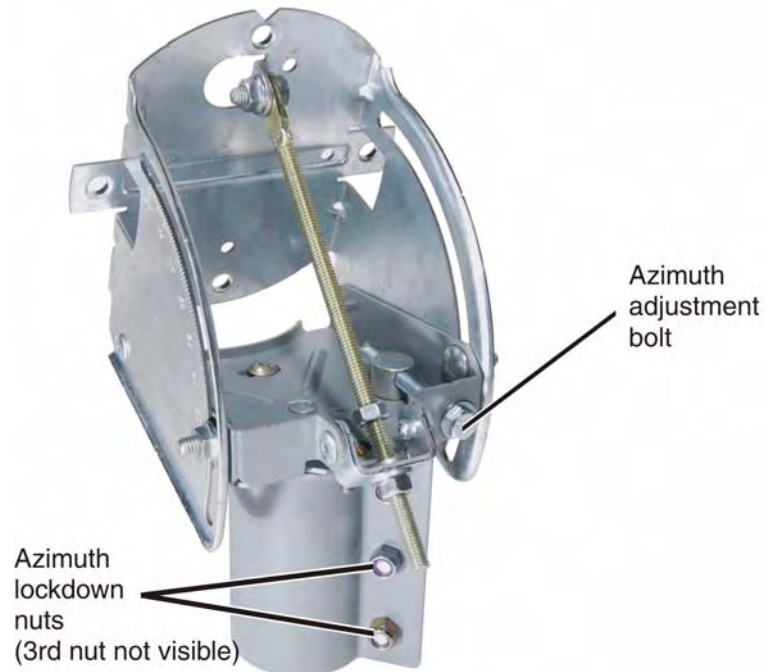

Figure 34: Azimuth adjustment components
1. Ensure that the three 5/16-inch azimuth lockdown nuts at the bottom of the Az/EI canister (shown in Figure 34) are loose enough that the canister rotates freely on the mast.
4. Using a 1/2-inch wrench, rotate the azimuth adjustment bolt shown in Figure 34 either clockwise or counter-clockwise until you reach the desired azimuth angle.